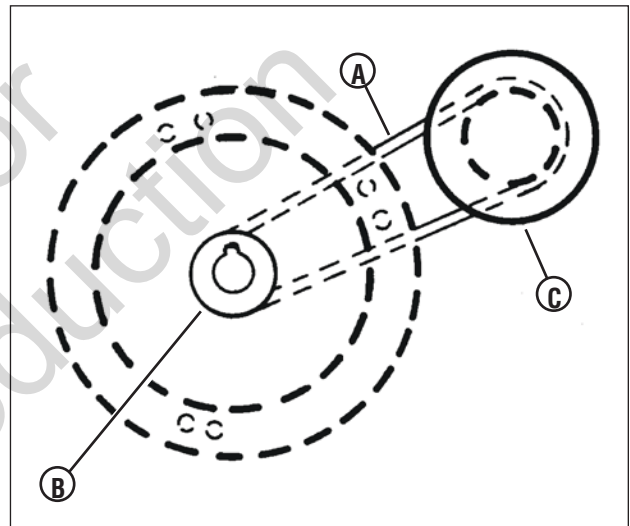

Figure 31: Engine drive belt routing
On self-propelled mowers, the engine belt (A, Figure 31) transmits power from the engine pulley (B) to the drive disc (C). The drive disc powers the poly-v belt, which engages the transmission that powers the rear wheels. Should these belts become worn, they could cause slippage, which would impair mower performance. The condition of the engine belt and poly-v belt should be checked after every 25 hours of mower operation.
2. Note the belt routing (Figure 31). There is no idler pulley on these models to disconnect.